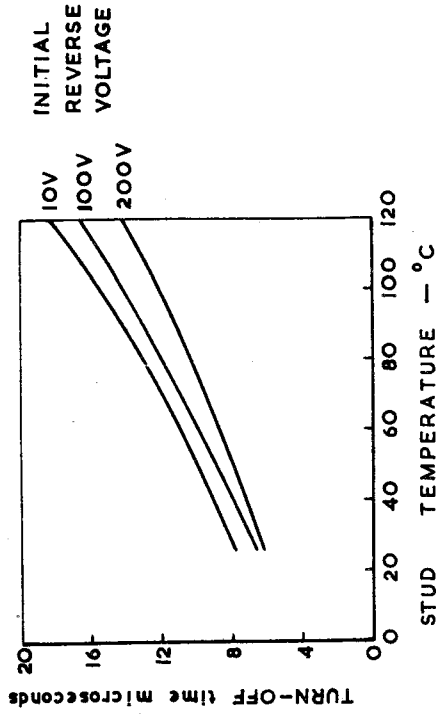

FIG. 4
4. See Figure 4 for typical turn on characteristic curves.